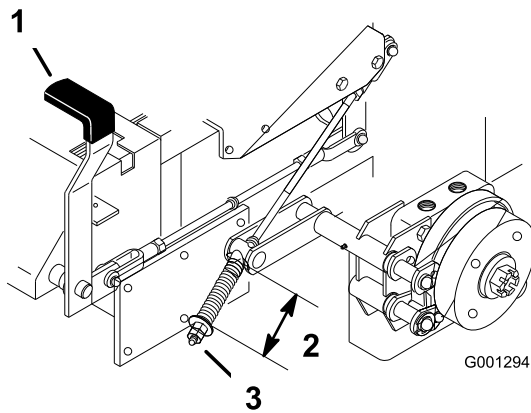

Figure 61
2. Measure the length of the spring. Measurement should be 2-1/2 inch (64 mm) between the washers (Figure 61).
3. If adjustment is necessary, release the parking brake, loosen the jam nut below the spring and adjust the nut directly below the spring (Figure 61). Turn the nut until the correct measurement is obtained. Turn the nut clockwise to shorten spring length and turn counter-clockwise to lengthen the spring.